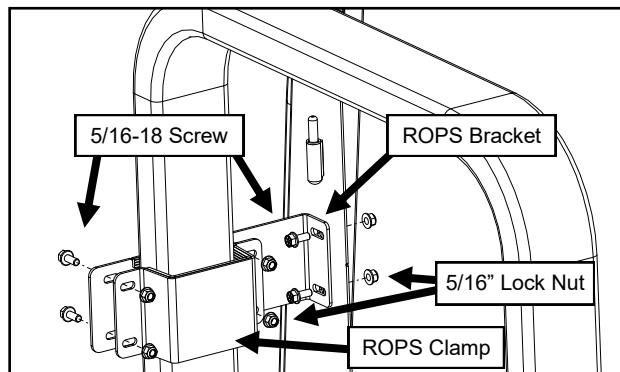

Fig. 8.1 (ROPS Bracket to Rear Leg Orientation)
- 8.1 Assemble the ROPS bracket to the rear leg as shown in Figure 8.1.
- 8.2 Position the ROPS clamp around the ROPS and fasten it to the previously installed ROPS bracket as shown in Figure 8.1.